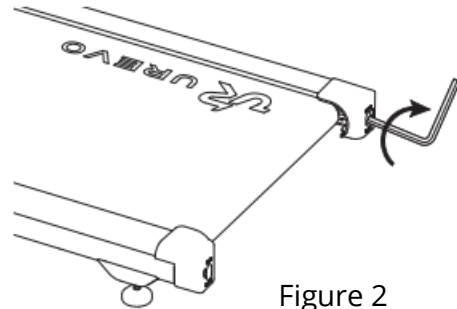

Figure 2
- If the walking belt has shifted to the right, use the hex tool to turn the right idler roller screw clockwise by a 1/4 turn (see Figure 2).